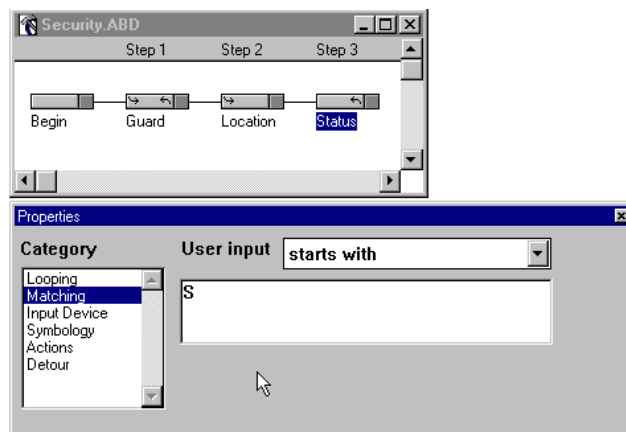

Figure 3-50 Matching Property - Starts With S
44. Click in the edit box and enter an **S** (Figure 3-50). Any entry that starts with an **S** is now an acceptable entry for the “Status” Handler.